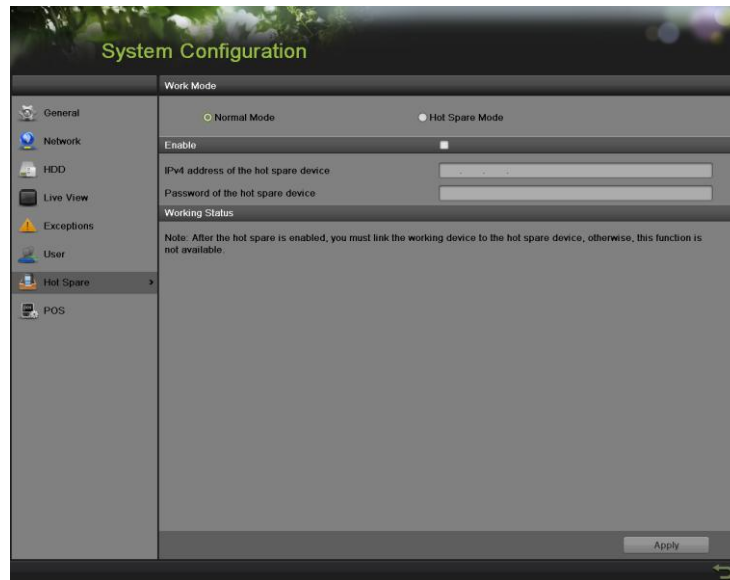

Figure 99 Hot Spare Configuration Menu
1. Enter the Hot Spare Configuration menu by going to Menu > System Configuration > Hot Spare. As shown in Figure 99.